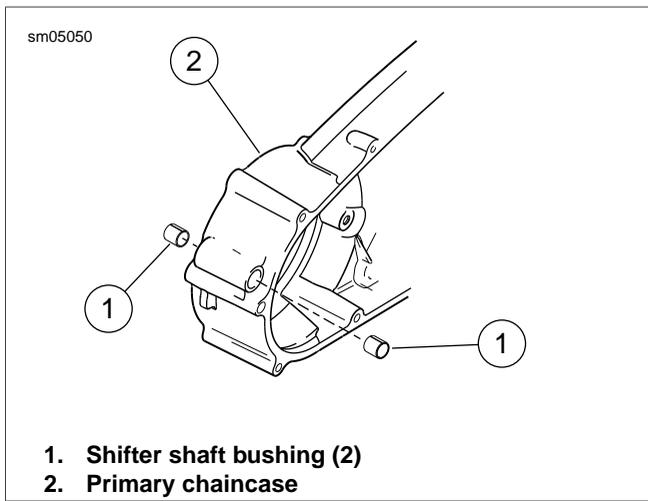

Figure 6-25. Shifter Shaft Bushings
1. See Figure 6-25. Press out old bushings (1) using an arbor press. Inspect the bushing bore to verify that it is clean and smooth.